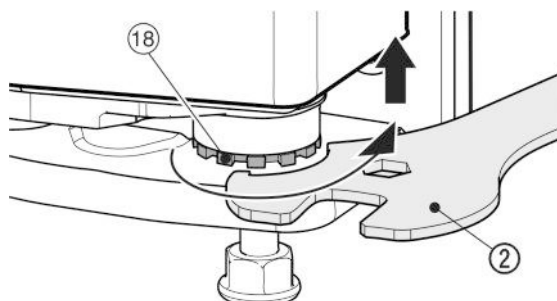

Fig. 18
- In order to lift the door unscrew the mounting block Fig. 18 (18) clockwise with the supplied open-end wrench Fig. 18 (2). When delivered the mounting block is completely screwed in.